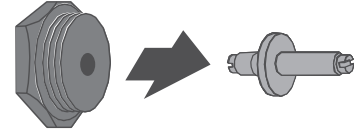

Figure 10
- 4** Remove retainer pin by pulling it out (see Figure 10).